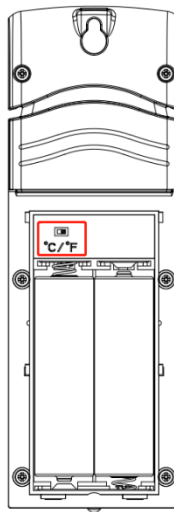

Figure 15a
3. This sensor is also capable of displaying in Celsius or Fahrenheit by using the switch under the battery door. As shown in Figure 15a.